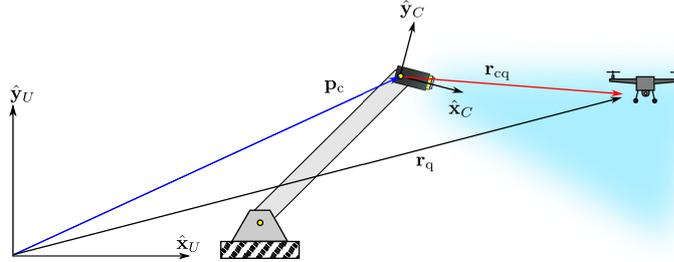

Figure 3: A robotic camera arm detects a quadcopter
3. Consider the problem in Fig. 3. The position of the origin of the camera frame F_C , expressed in the F_U frame, is $(\mathbf{p}_C)_U = (4 \ 2)^T$. Assume that the angle, measured counter-clockwise, from the $\hat{\mathbf{x}}_U$ axis to the $\hat{\mathbf{x}}_C$ axis is -15° . Suppose that a machine vision algorithm returns the position of the quadcopter relative to the camera, expressed in the local F_C frame, as $(\mathbf{r}_{cq})_C = (2.5 \ 0.5)^T$.